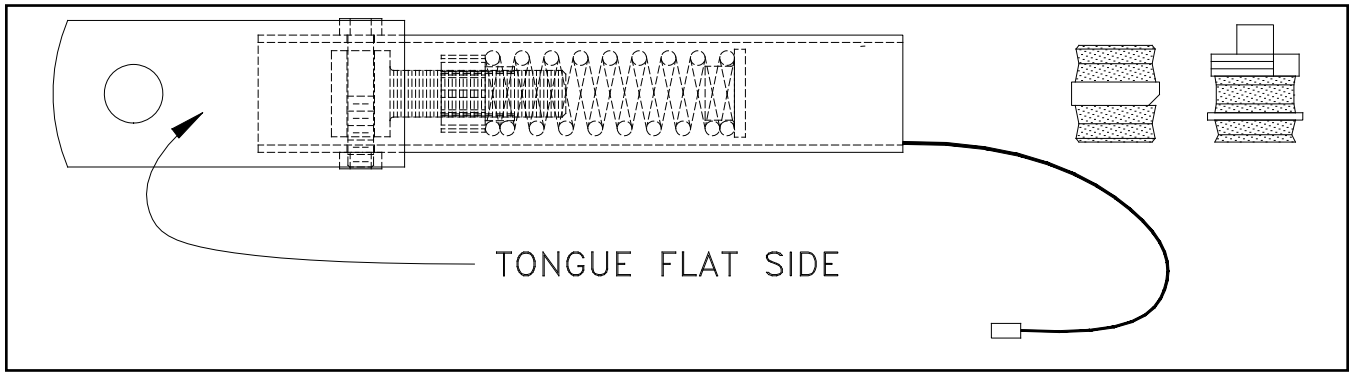

Figure 18
7. Set the movable pulley assembly next to the Auto-Stop tube, and next to it place the stationary pulley assembly. (Figure 18) You are now ready to route the cable around the pulleys.
8. Pull the cable through so you have all the slack at the back where you will be wrapping the cable. The AutoStop tube should still be positioned with the tongue flat side towards you. (Figure 18)